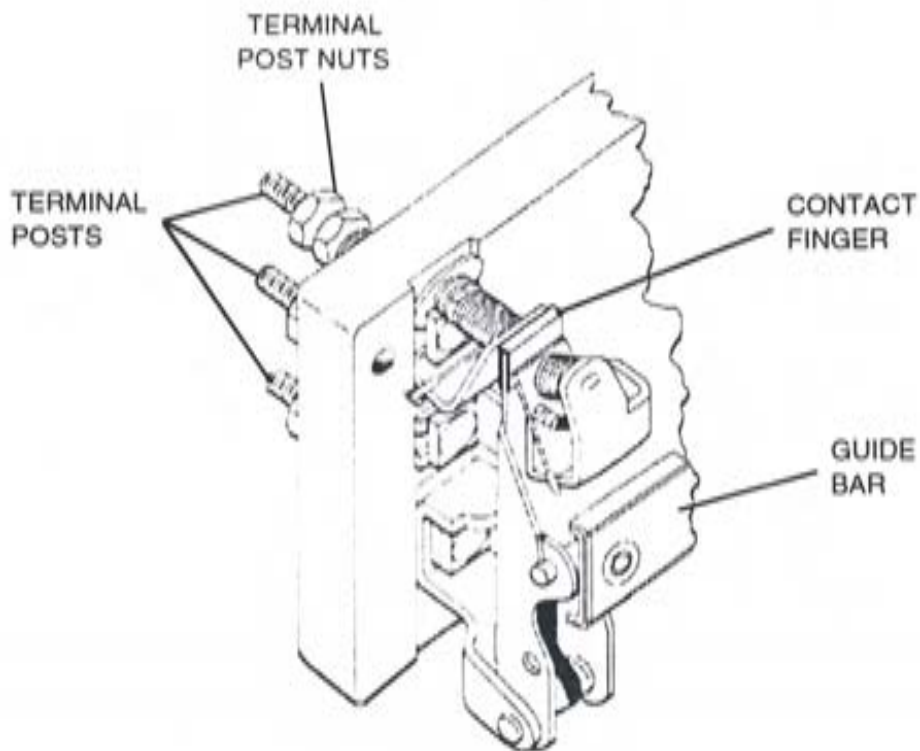

Figure 5-3. Contact Finger Bar
3. Remove pin holding contact finger to guide bar. Now remove guide bar. (Figure 5-3).